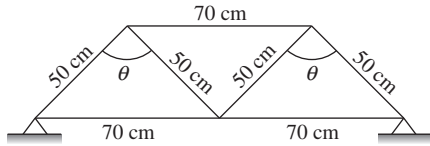

Figure P3.7 Truss structure for problem P3-7.
- 3-7.** A truss structure consists of three isosceles triangles as shown in Fig. P3.7. Determine the angle θ using the laws of cosines or sines.